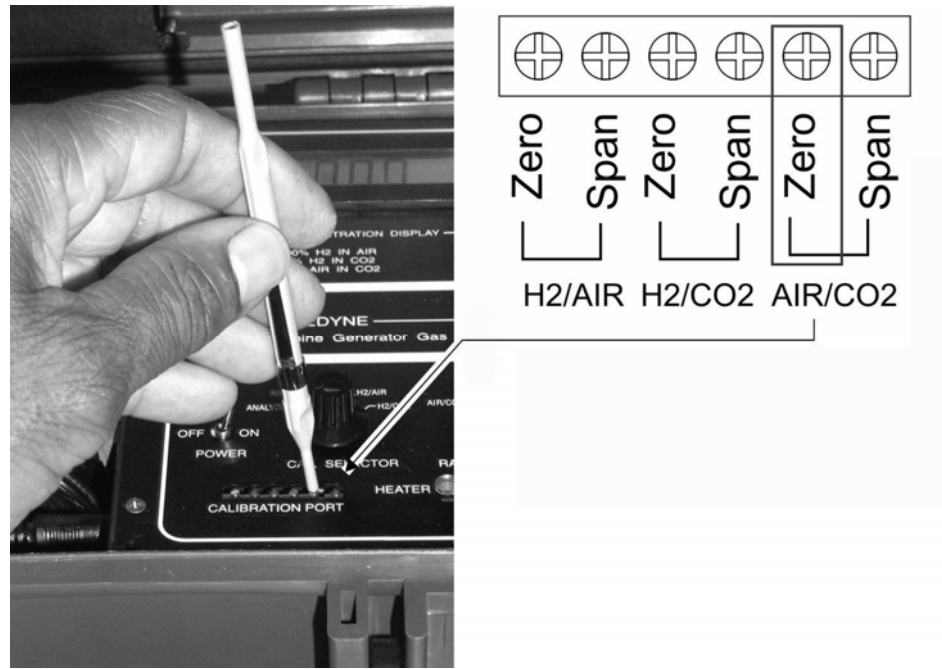

Figure 3-4: Interface Panel Showing Calibration Switch Position
7. Use the air/CO₂ zero trim pot to adjust the display to zero. See Figure 3-4 above.